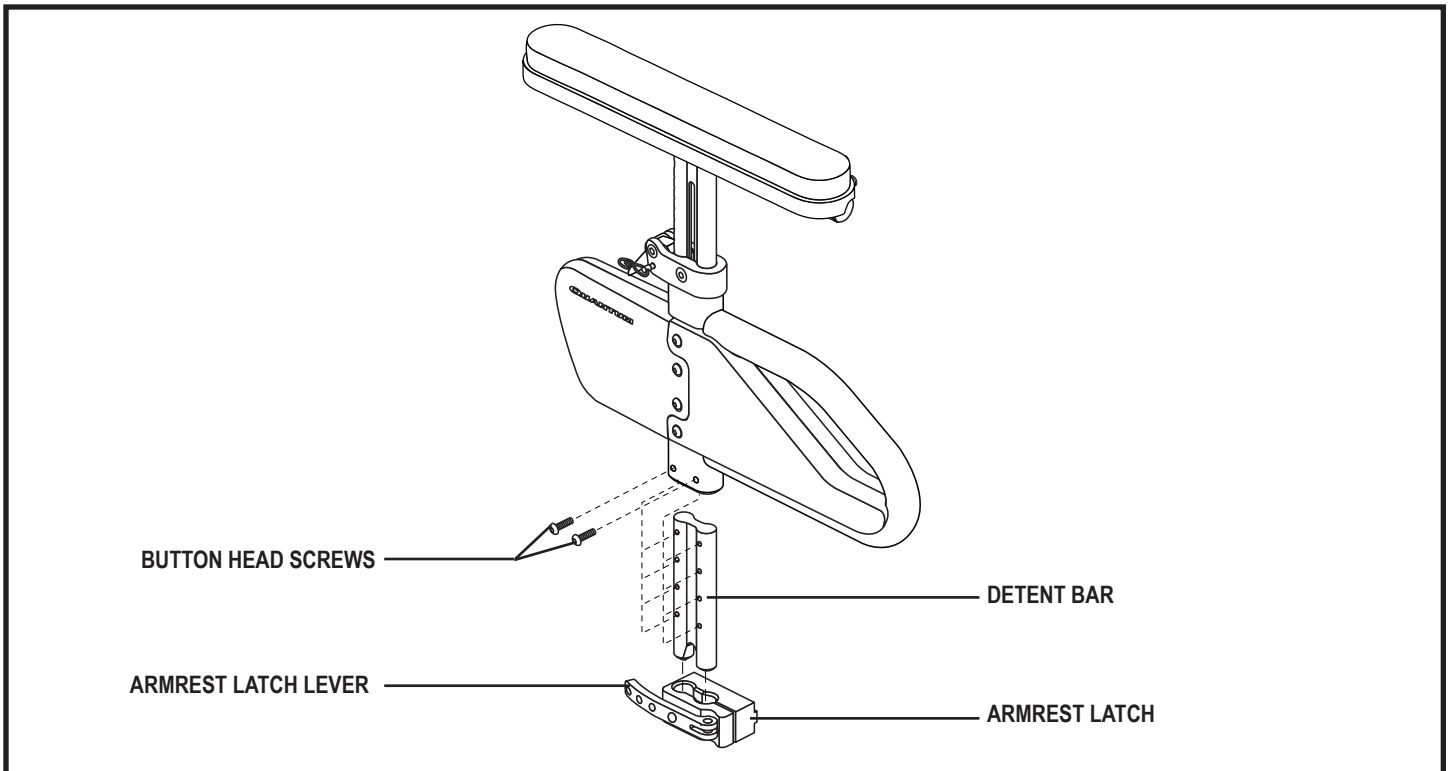

Figure 26. Single Post Quick Height Adjustable Armrest Bottom Height Adjustment
2. Remove the two button head screws from the detent bar. **See figure 26.**